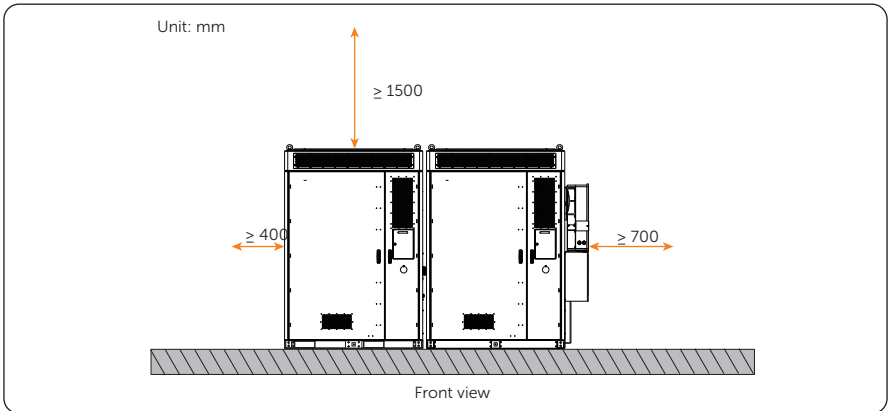

Figure 4-10 2 and more cabinets
- Multiple cabinets (see Figure 4-10 and Figure 4-11)